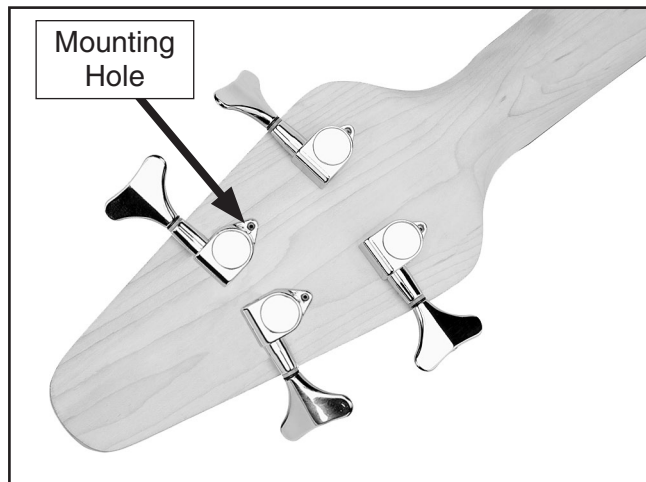

Figure 16. Tuners positioned.
2. Position the tuners so they are perpendicular to the edge of the headstock, and mark the mounting holes (**Figure 16**).